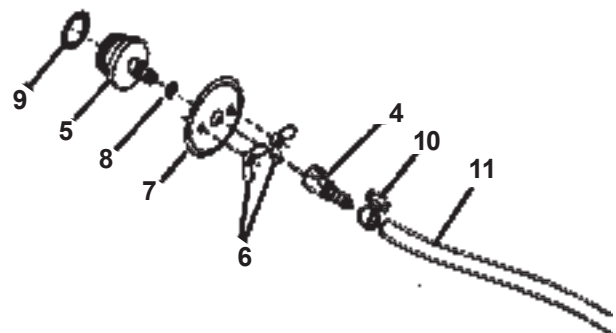

Figure 6. Manifold Disassembly
- D. Remove quick connect (4) from manifold (5). Remove two wing nuts (6), locking plate washer (7), and manifold (5). Remove manifold connector O-ring (8) from manifold (5), and manifold "O"-ring (9). Loosen hose clamp (10) and remove hose (11). (See Fig. 6)
- A. Place manifold "O"-ring (9) onto manifold (5) and lubricate lightly. Place manifolds connector "O"-ring (8) onto manifold (5) and lubricate. Place manifold (5) into pressure switch. Position locking plate washer (7) and secure with two wing nuts (6) finger tight. Connect tubing (11) to quick connect (4) and tighten hose clamp (10) finger tight. Connect quick connect (4) to manifold (5). (See Fig. 6)
- B. Install air inlet check valve (30) into cylinder top (31). Do not lubricate. Install air inlet retainer (29) into air inlet valve. Push into place. Check quad ring (33) for excessive wear and replace if necessary. Spray a thin film of lubricant in bottom of cylinder top (31).